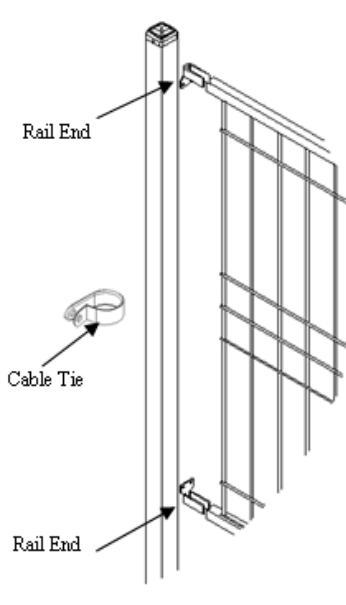

FIGURE 1
2. After the terminal post is set, you may proceed by installing a section and a post at a time, or by setting all the line posts making sure they are set at proper spacing (see Spacing note in Caution above). Remember, if shortened, the section should always be cut flush with the vertical wire so that it will abut post and allow cable ties to secure that vertical to the post. Heights of posts above ground level should be 4" longer than height of fence section to allow for 2" space over grade and 2" over top rail. (If on a slope, add the length of the drop to the lower post. If drop too severe, go to next longer post). Regardless of preference for post setting, one rail end should be slid into each open end of top and bottom rails (See Figure 1).
5. Sections will proceed from post to post using 4 rail ends per section (see Figure 1). Attach rail ends as shown with TEK screws. **When using posts heavier than 14 ga, predrill holes for rail ends.** Flanges of rail ends point toward wire and **rail ends can be adjusted for angles in lines.** Cable ties for vertical rigidity are added as you proceed or after all the fence sections have been installed. It is only necessary to secure one of the four corners of each section by using one tech screw through the rail and into the rail end. One end of the section should be allowed to float freely to allow for expansion and contraction.